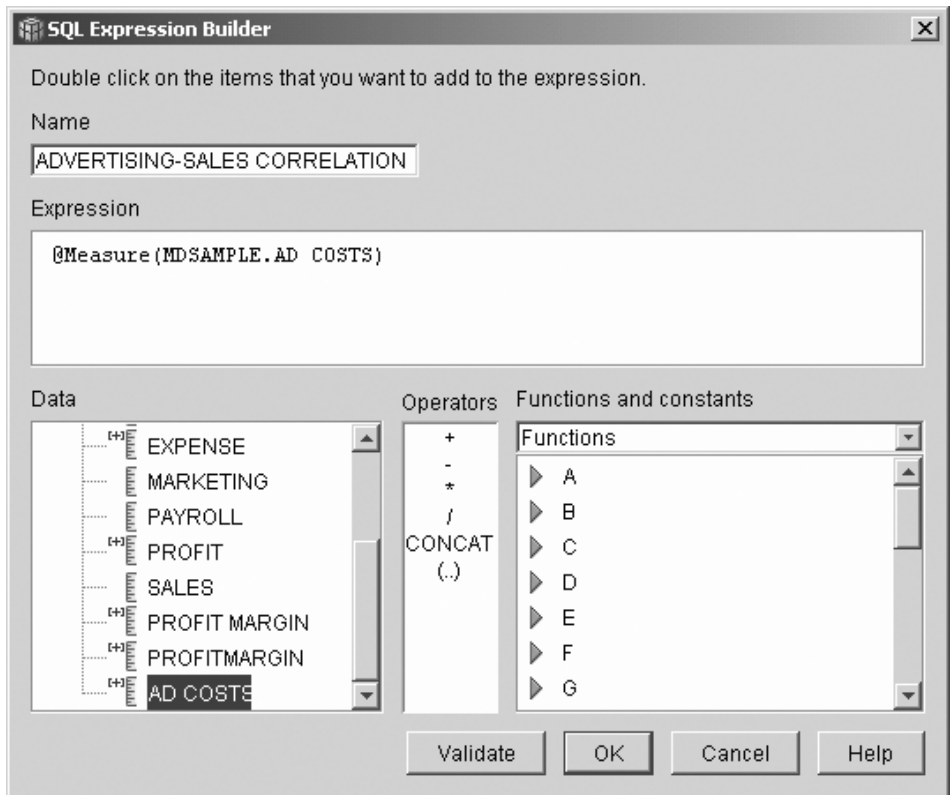

Figure 3. Complete advertising–sales correlation expression in the SQL Expression Builder window
4. Define the measure's expression that will also be used as the first parameter of the multiparameter CORRELATION function in the aggregation script. To define the expression, expand the **Measures** folder in the **Data** list and double-click the **AD COSTS** measure to add it to the **Expression** list. Figure 3 shows the expression that you create in the SQL Expression Builder window.